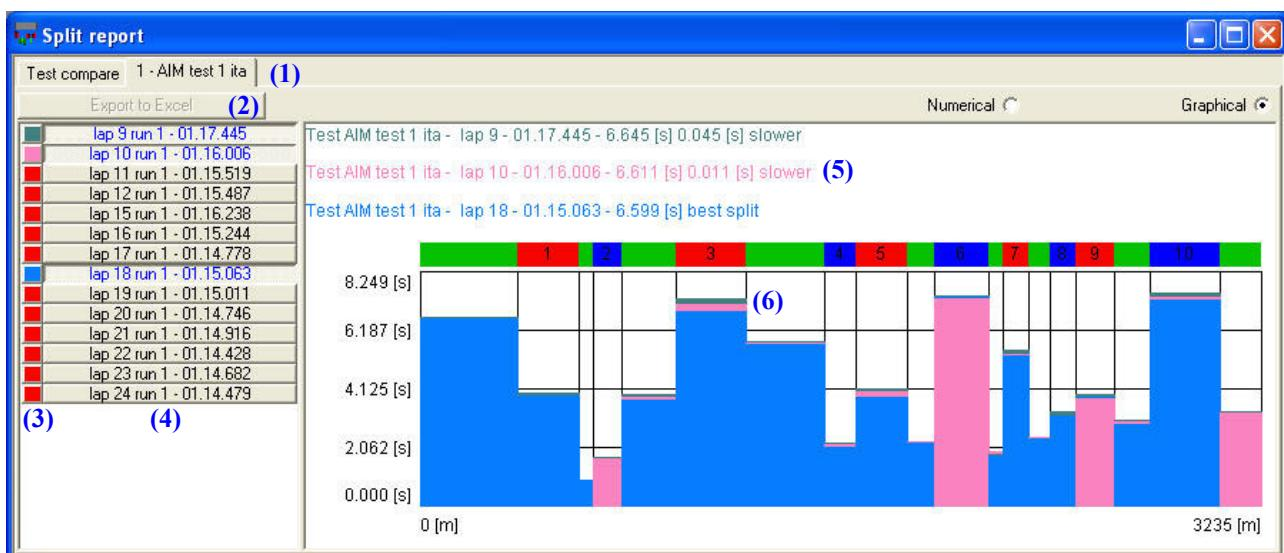

Fig. 6.5– *Split times* analysis: graphical compare
Buttons *Numerical* (5) and *Graphical* (6) are used to select the compare type: in Figure 6.3 it is shown the *Numerical* compare, while the *Graphical* one is shown in Figure 6.5.
An example of a *Split Times* graphical compare is shown in Figure 6.5 and described below.